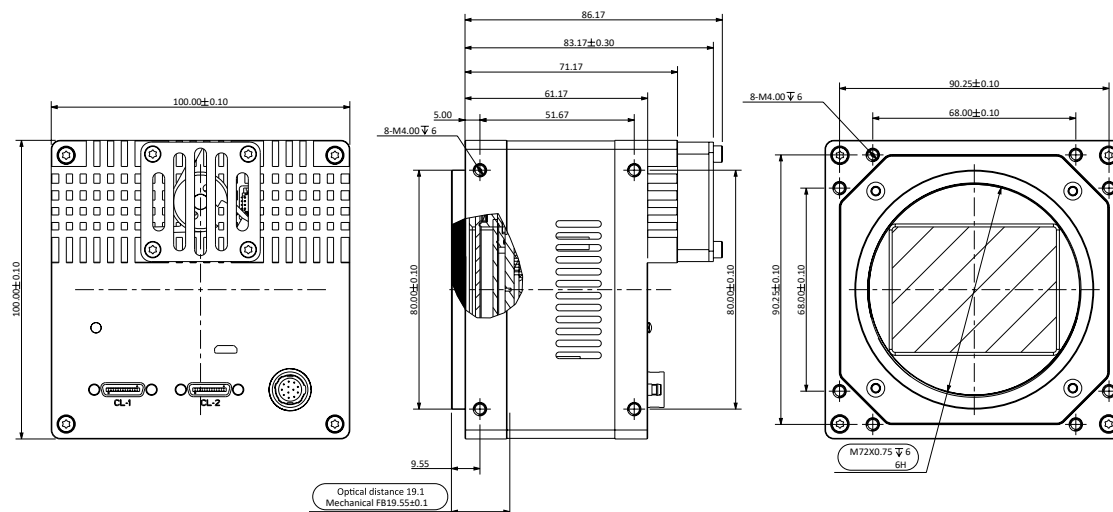

Fig. 1-8: Mechanical Dimensions (in mm) for Cameras with 100 * 100 * 66mm housing (M72 interface).
- Fig. 1-8: Mechanical Dimensions (in mm) for Cameras with 100 * 100 * 66mm housing (M72 interface).